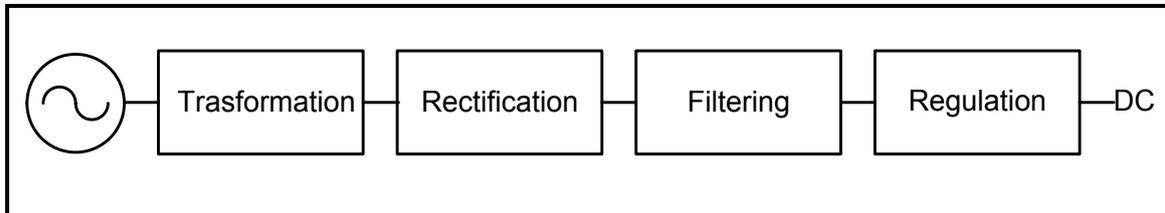

FIGURE 9.1: BLOCK DIAGRAM OF A POWER SUPPLY
9.1 FIGURE 9.1 below shows the block diagram of a power supply.